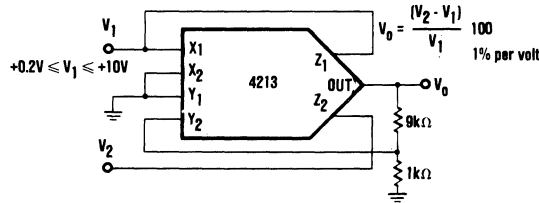

FIGURE 9. Percentage Computation.
8.3.5 Percent. The circuit of Figure 9 has a sensitivity of $1V/\%$ and is capable of measuring 10% deviations. Wider deviation can be measured by decreasing the ratio of R_2/R_1 .